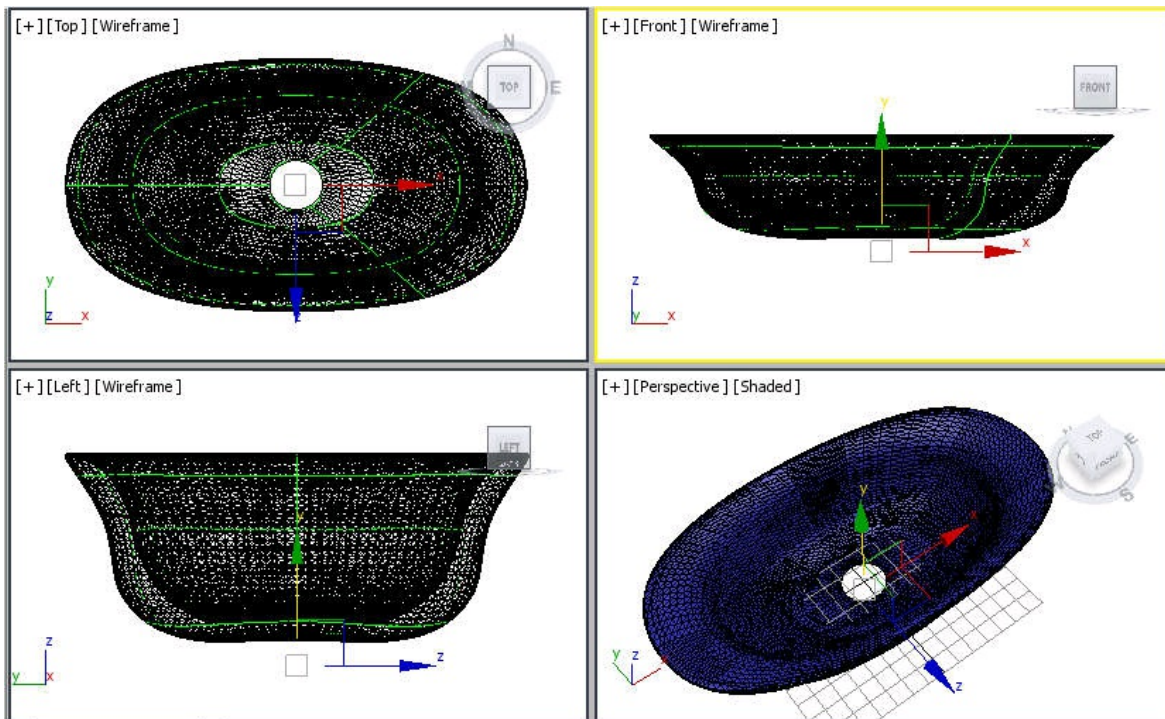

Figure 10-63 The washbasin modified at the **Curve** sub-object level
6. Select the **Curve** sub-object level and modify the shapes using the **Select and Move** and **Select and Uniform Scale** tools till you will get a perfect shape of washbasin, refer to Figure 10-63. Note that you need to scale *Ellipse008* to a circular shape to fit the sieve in it.